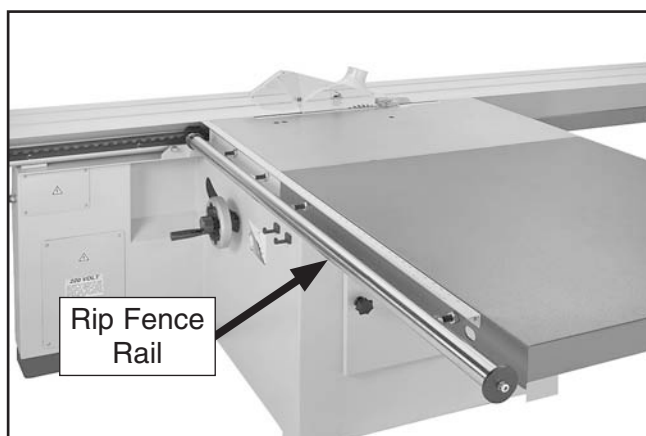

Figure 33. Rip fence rail installed.
35. Install the rip fence rail by inserting the studs into the provided holes in the cast iron table and rear extension wing, as shown in **Figure 33**, then secure them with the hex nuts, lock washers, and flat washers removed in **Step 34**.